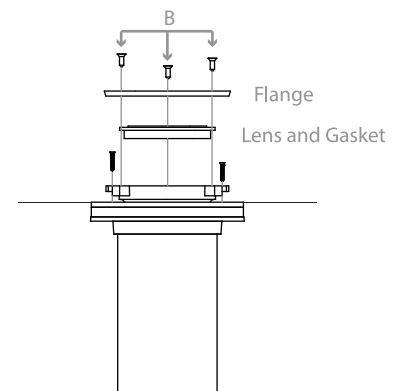

Fig. 4b
Be certain to clean gasket recess before placing Lens and Gasket assembly into the gasket recess in the luminaire (see Fig. 4b). Make sure that the lens and gasket are clean.
Place Flange on top of gasket and lens assembly and tighten the four screws (B) evenly by hand. (See Fig. 4b).